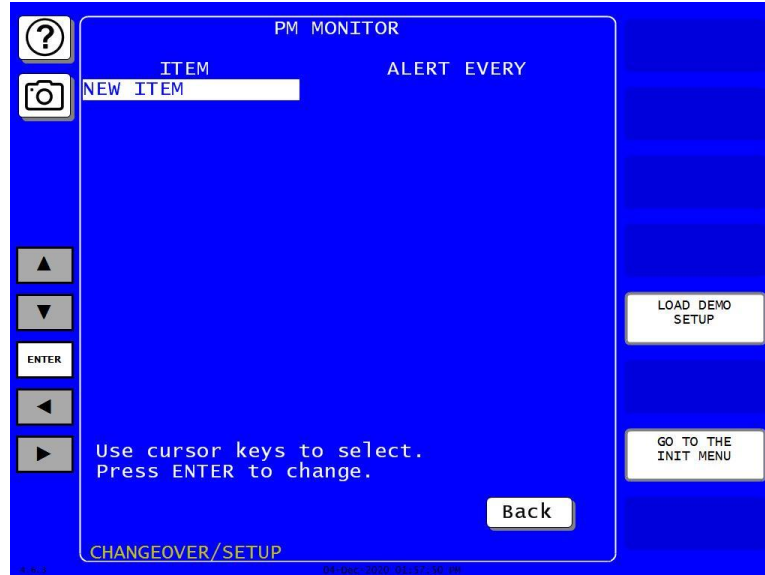

Figure A- 4. PM Monitor Screen
1. Go to the “PM Entry” screen, Figure A- 4. Press GO TO THE INIT MENU.